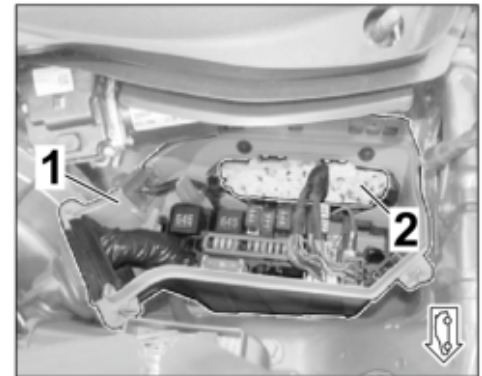

Figure 11
1.4.4 Remove cover on fuse box (E-box) in cowl panel (⇒ *Figure 11*).
1.4.5 Remove foam pads on bulkhead (⇒ *Figure 11 -2-*).